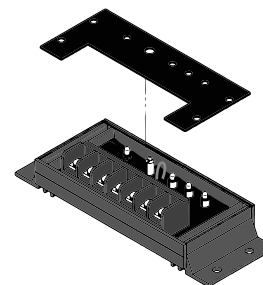

Figure 2c. Remove faceplate.
2. Gently pry the faceplate off the SunSaver. Occasionally, epoxy encapsulant will cause the faceplate to stick. Use a small flat-head screw driver to separate the faceplate from the SunSaver body. See Figure 2c.